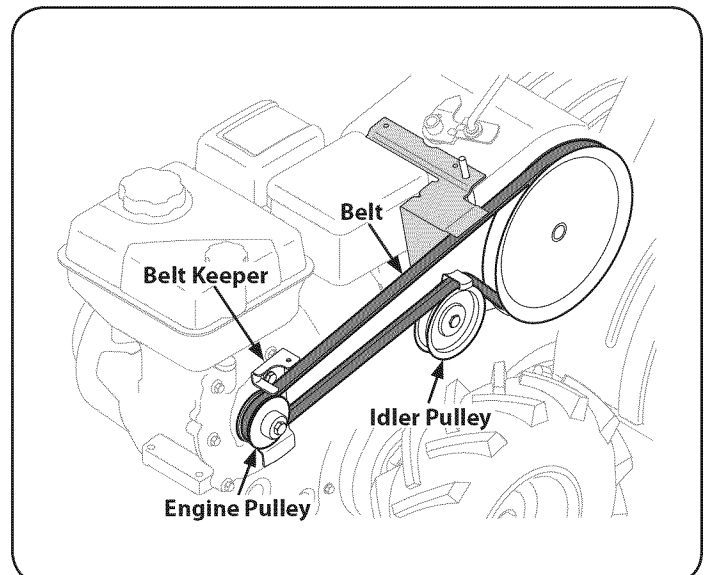

Figure 28
3. Remove the belt keeper assembly located behind the engine pulley by removing the two hex bolts and lock washers. See Figure 28.